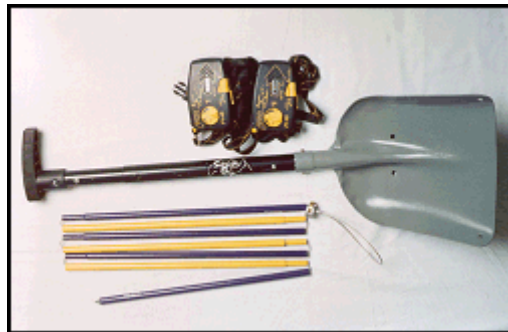

Figure 3-29. Avalanche rescue equipment.
d. **Avalanche rescue equipment.** Avalanche rescue equipment (Figure 3-29) includes the following: